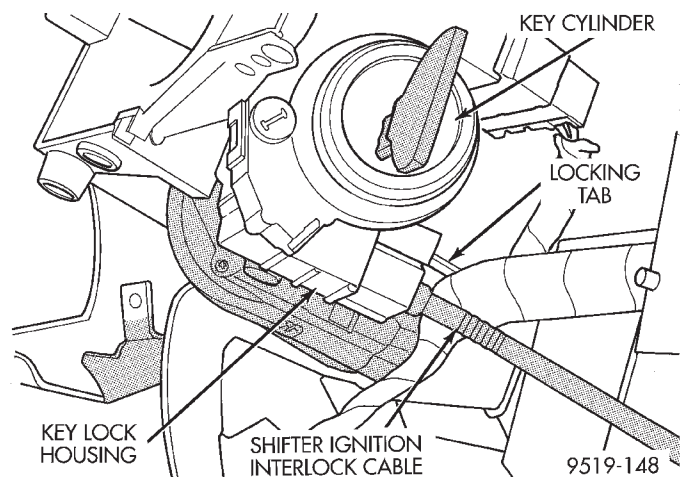
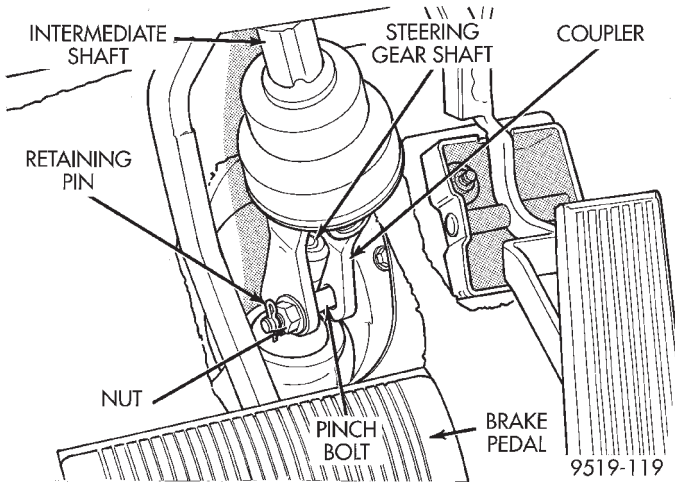

Fig. 19 Shifter/Ignition Cable At Lock Cylinder Housing
Fig. 20 Intermediate Shaft Coupler To Steering Gear Shaft
(24) Depress the locking tab on the shifter/ignition interlock cable (Fig. 19) and remove the cable from the key lock housing.
(25) Remove routing clip holding wiring harness to jacket of steering column.
(26) Remove retaining pin in steering column coupler pinch bolt (Fig. 20). Loosen the upper to lower steering coupler pinch bolt retaining nut and remove pinch bolt from steering coupler (Fig. 20). **Pinch bolt nut is caged to coupler and is not removable.** Then separate steering coupler from steering gear.
(4) Assemble the lower intermediate shaft coupler to the steering gear input shaft. Tighten the coupler pinch bolt nut to a torque of 27 N·m (240 in. lbs.). **Be sure to install steering coupler pinch bolt retaining pin (Fig. 20).**
(5) Install the shifter/ignition interlock cable (Fig. 19) in the lock cylinder housing.